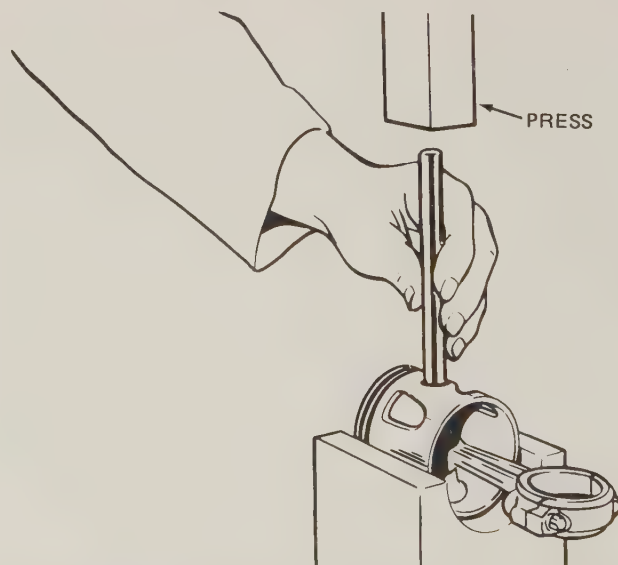

FIG. 31-25 Using a press to push the piston pin into place.
**○31-12 INSTALLING THE PISTON** After the rings are installed on the piston, attach the piston to the connecting rod with the piston pin. Coat the piston pin with oil before installing it. Some piston pins can be pushed in with a thumb. Others require a press or special tool (Figs. 31-25 and 31-26). If lock rings are used, install them. Then coat the cylinder and the piston and rings, and install the cylinder over the